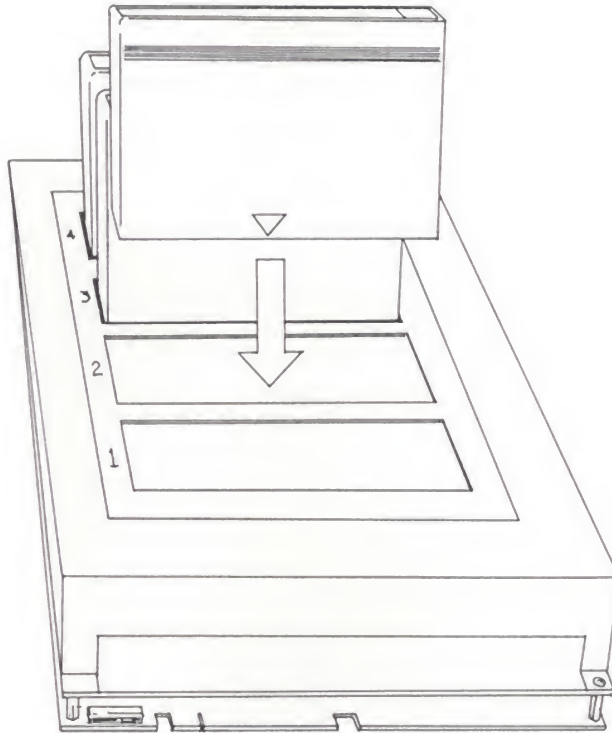

Figure 2, Cartridge Direction
3. Locate a unused slot in the Main PCB and carefully install the Game Cartridge into it, noting the position as shown in Figure 2. **DO NOT FORCE THE CARTRIDGE INTO THE SLOT.** If positioned correctly, it will slide in and fit snugly in place. The slots are numbered to match the Marquee Title Card slots.
This screen displays the current settings of the Hardware Dip Switch on the MV-Main PCB. These should all be OFF for normal game operation. NOTE: This is only provided to *VIEW* the hardware dipswitch settings. Any required adjustments must be made physically on the MV-MAIN PCB, see Figure 2 for the location of the Dipswitch.